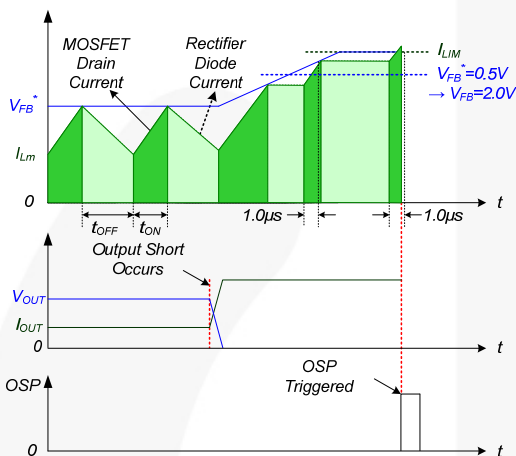

Figure 24. Output-Short Protection
**4.3. Output-Short Protection (OSP):** If the output is shorted, steep current with extremely high di/dt can flow through the SenseFET during the minimum turn-on time. Such a steep current creates high-voltage stress on the drain of the SenseFET when turned off. To protect the device from this abnormal condition, OSP is included. It is comprised of detecting  $V_{FB}$  and SenseFET turn-on time. When the  $V_{FB}$  is higher than 2.0V and the SenseFET turn-on time is lower than 1.0 $\mu$ s, this condition is recognized as an abnormal error and PWM switching shuts down until  $V_{CC}$  reaches  $V_{START}$  again. An abnormal condition output short is shown in Figure 24.